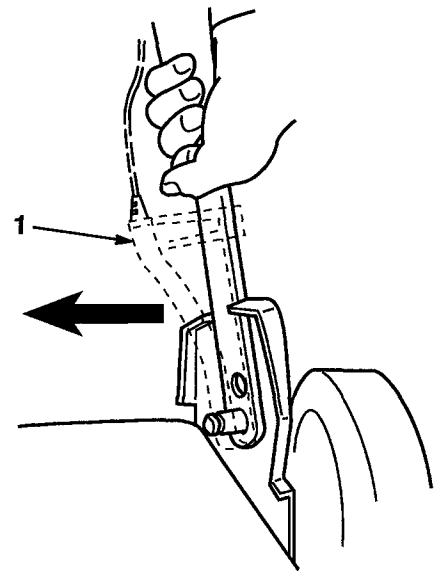

Figure 15
1. When adjusting height-of-cut, slide cable anchor on handle to align hole in cable anchor with desired hole in handle. Locate holes over pin inside handle bracket (Fig. 15).